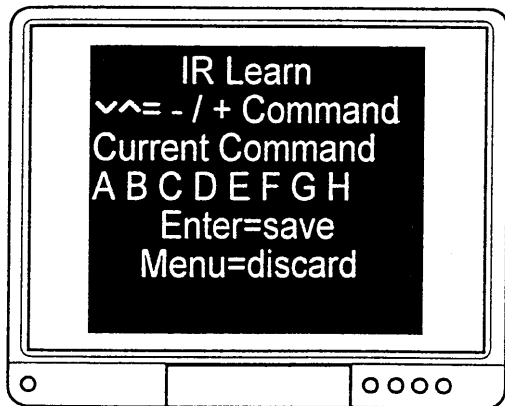

Figure 12 (a).
Step 4. Point your remote control, at a distance of between 2mm and 5mm from the 'Learn' window on the Control Unit and press the button on the remote control you have planned to allocate to the command letter 'A'. When the signal has been accepted the 'Send LED' will flash and the on-screen display will change to the display shown in figure 12 (a).